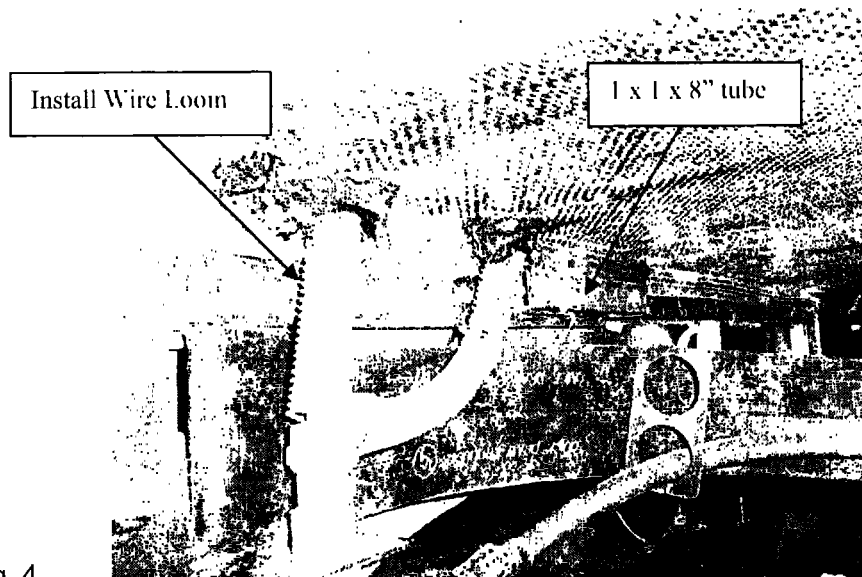

Fig. 4
Step 10 Use two 1/4 x 1-1/2" self drilling screws to attach a 1" x 1" x 8" steel tube at bottom of support channel as a hard stop between channel and main room floor (see fig 4).